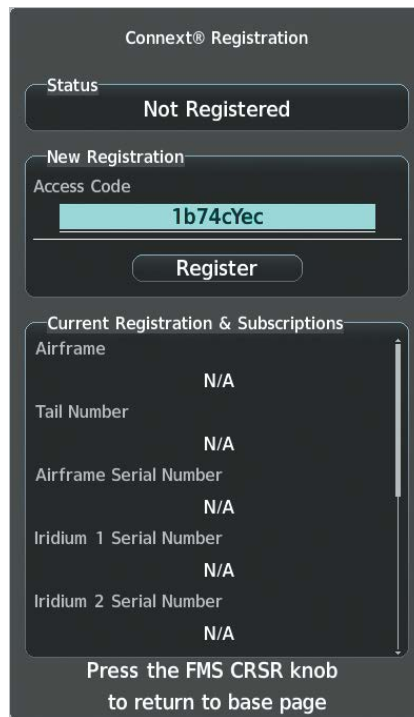

Figure 6-3 Enter Access Code
- 8) Press the **ENT** Key. The Connex Registration Window appears as shown in Figure 6-3.